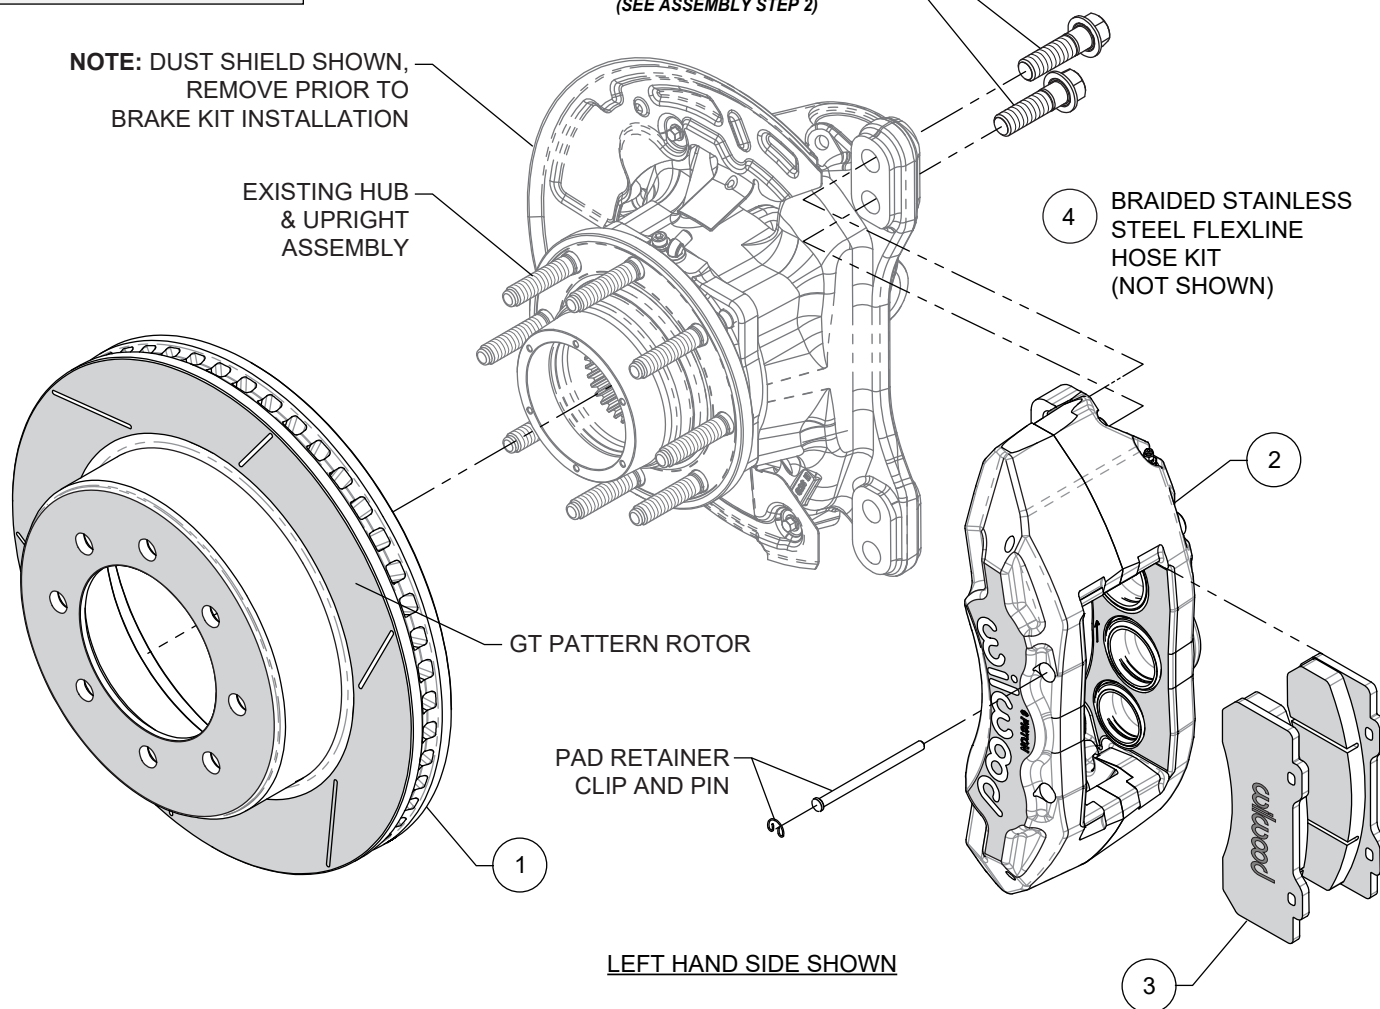

Figure 1. Typical Installation Configuration
NOTE: Numbers in parenthesis refer to the parts list and Figure 1 on the preceding pages.
STEP 1 Slide the rotor (1) onto the hub. **NOTE:** The rotor must fit flush against the hub flange or excessive rotor run out may result. Install three lug nuts (finger tight) to keep the rotor in place while continuing with the installation, Photo 1.
STEP 2 **NOTE:** This kit contains distinct right and left hand calipers that must be mounted in a specific direction, as described below. Ensure that the caliper is mounted so the largest pistons are at the rotor exit end of the caliper, in relation to the forward direction of the rotor. Mount the caliper (2) onto the OEM caliper mounting bosses of upright using the existing OEM bolts as shown in Photo 2 and Figure 1. Apply red *Loctite*® 271 to bolt threads, and torque to OEM specifications.
STEP 3 Remove the two pad retaining pins from the caliper by carefully popping out the pin retaining clips and sliding out the pins. Insert the brake pads (3) into the caliper, with the friction material facing the rotor, as shown in Photo 3. Secure the brake pads in place with the pad retaining pins and clips, Photo 4.
STEP 5 Attach brake line to caliper. **NOTE:** OEM rubber brake hoses generally cannot be adapted to Wilwood calipers. Install Wilwood's stainless steel braided flexline hose kit (4), p/n 220-17924, included with this kit. The caliper inlet fitting is a 1/8-27 NPT. Use the included steel adapter fitting at the caliper (use PTFE tape on the pipe threads of adapter fitting for proper sealing to caliper). Note the final orientation of the caliper inlet adapter fitting as shown in Photo 5.